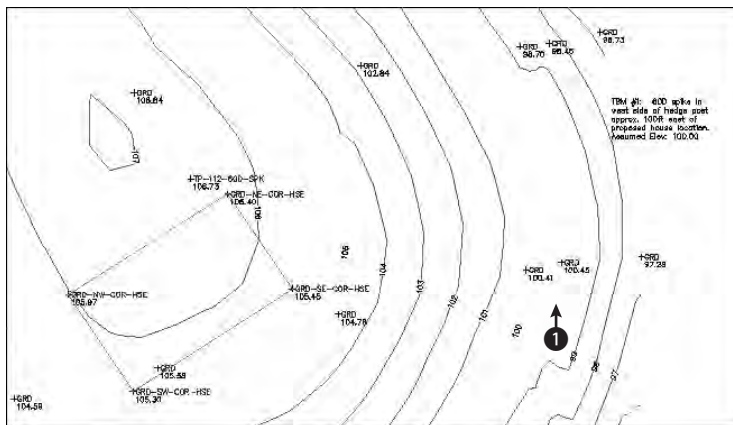

Figure 16-5: The topographical drawing's contours are polylines.
2. Save the file as ab16-02.dwg in your AutoCAD Bible folder. This is a topographical drawing as shown in Figure 16-5. The contours are polylines.
3. Choose Modify ⇨ Object ⇨ Polyline to start the PEDIT command. Select the polyline at ❶ in Figure 16-5.
5. Type **e** ↵ to choose the Edit vertex option. At the Enter a vertex editing option [Next/Previous/Break/Insert/Move/Regen/Straighten/Tangent/Width/eXit] <N>: prompt, type **n** ↵ several times until the x mark is at ❶ in Figure 16-5. (There are many vertices—it's not important that you find the exact one.)